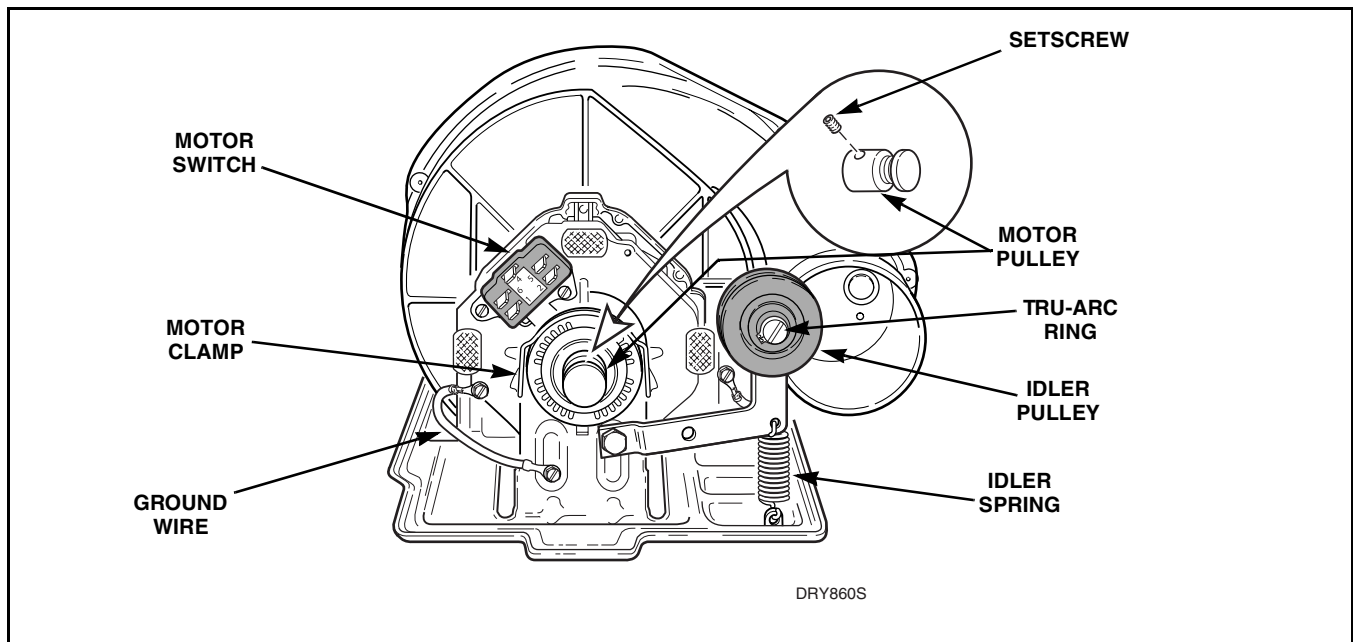

Figure 26
- (1) Refer to *Figure 26* for motor and idler pulley removal.
- (1) Disconnect wires from motor switch. Refer to *Figure 26*.
- (2) Disconnect ground wires from motor. Refer to *Figure 26*.
- (3) Pry two motor clamps off using a screwdriver. Refer to *Figure 26*. Then lift motor out of mounting bracket.
NOTE: When replacing motor, the motor switch location should be at 10 o'clock position with the positioning tab on the motor engaged with the notch in the motor bracket. Refer to *Figure 26*. Refer to appropriate wiring diagram when rewiring motor switch leads.